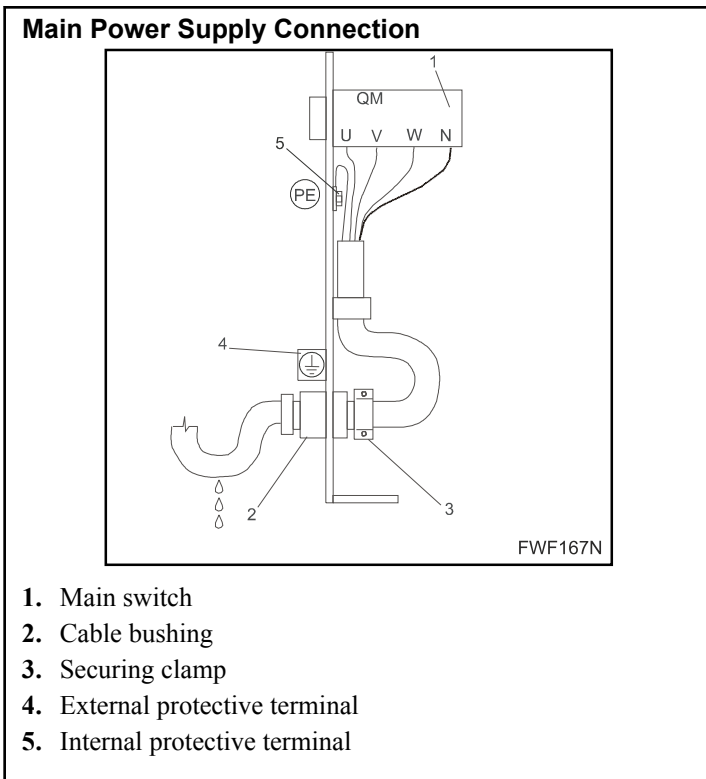

Figure 13
- a. If the cable is attached from above it is recommended to ensure the cable sagging in front of the entry into the cable bushing. Refer to *Figure 13*. In this way any running condensed water into the bushing and/or machine can be avoided.
Refer to *Figure 13*.